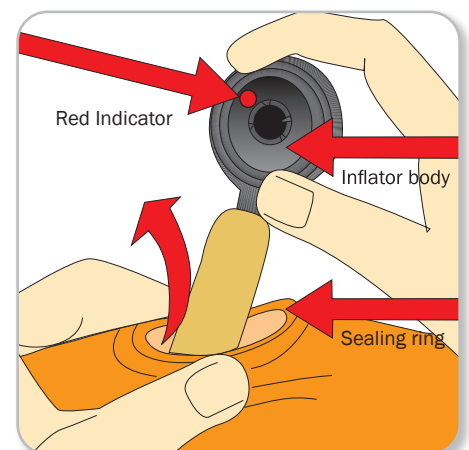

Figure 6
4. Squeeze sealing ring to elongate and remove the inflator body through the sealing ring. (Figure 6)